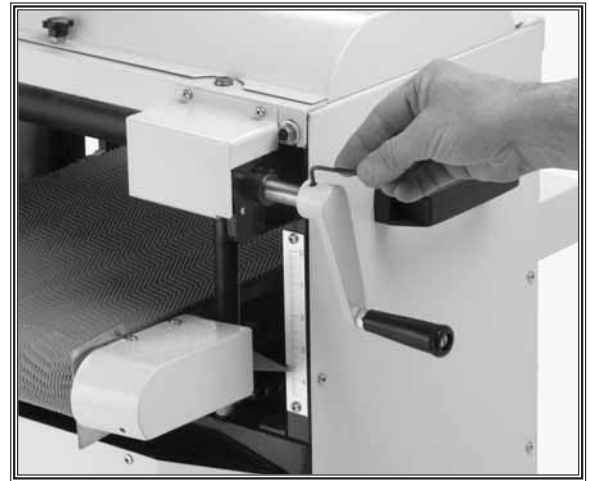

Figure 5. Handcrank installation.
1. Place the handcrank over the shaft shown in **Figure 5** and, using a 3mm hex wrench, secure the handle with the two set screws.